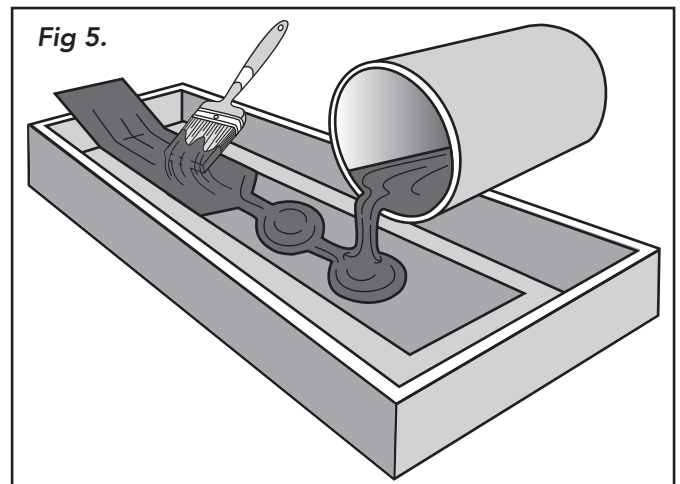

Fig 5. Saturate the Denso D10 Scrim strips with Denso Acrylic Topcoat in a suitable tray.
3. Fully saturate the cut strips of Denso D10 Scrim with Denso Acrylic Topcoat in a suitable trough or paint tray (see Fig 5). The scrim absorbs approximately a litre of topcoat per square metre